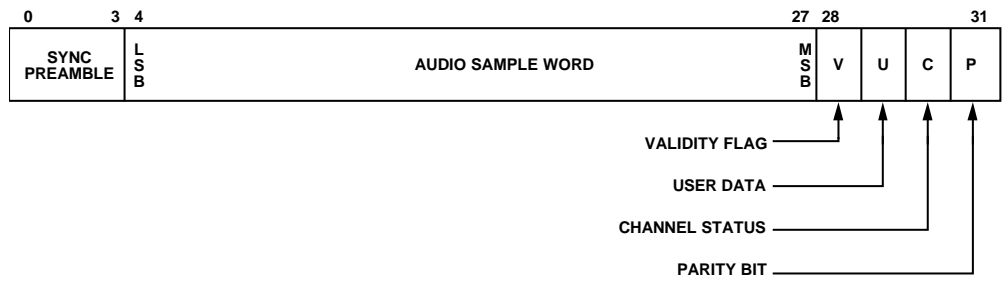

Figure 18. IEC60958 Subframe Timing Diagram
- A stream conforming to the IEC60958 specification when the part receives audio sample packets with L-PCM encoded data (refer to Figure 18).